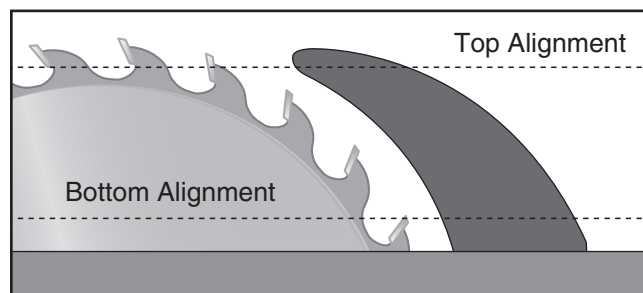
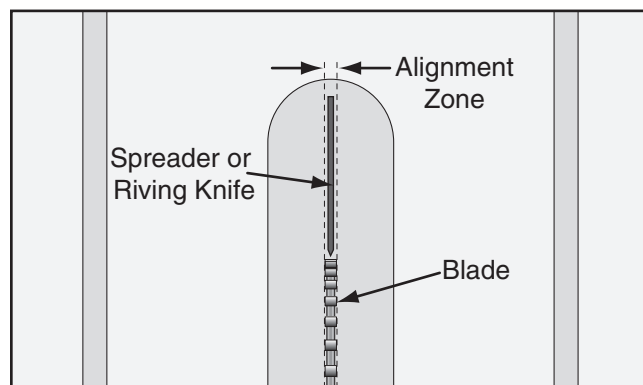

Figure 115. Example of checking top and bottom riving knife parallelism with blade.
Figure 116. Spreader/riving knife alignment zone.
3. Place straightedge against top and bottom of blade and spreader/riving knife, as shown in **Figure 115**. Spreader/riving knife should be parallel with blade at both positions and in the "Alignment Zone," as shown in **Figure 116**.